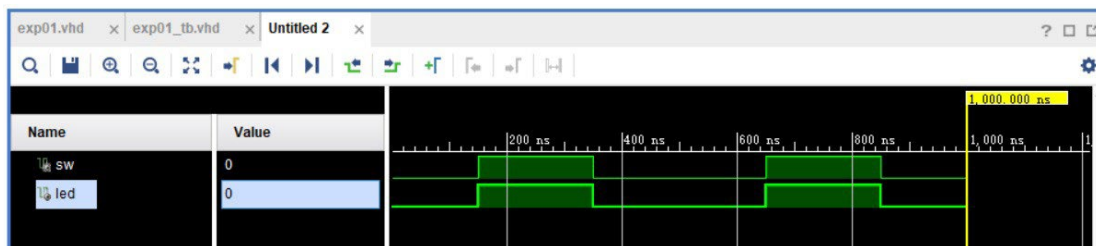

Figure 1. Checkpoint 2 waveform Example.
**CHECKPOINT 2: How do you generate the waveform as shown in the following Figure 1, by modifying the exp01\_tb.vhd file? (Hint: please note the duration of 1 and duration of 0 as shown in the figure have changed.)**